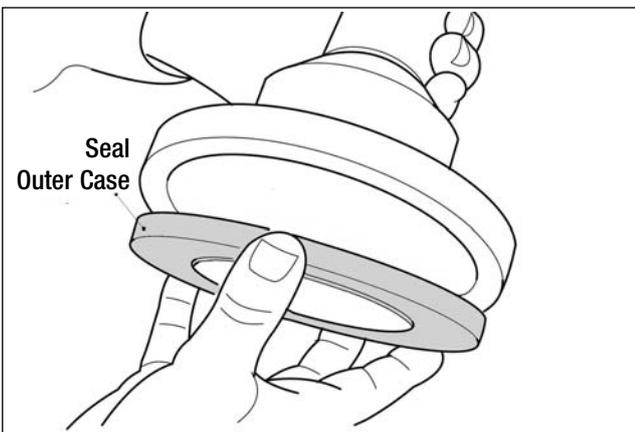

Fig. 4.24
4. Insert seal outer case into service tool MST4410 - CT26 (Fig.4.24)